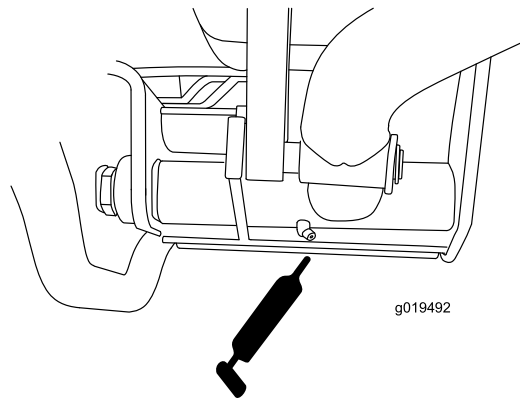

Figure 48
- Rear lift arm pivots (2) (Figure 48).